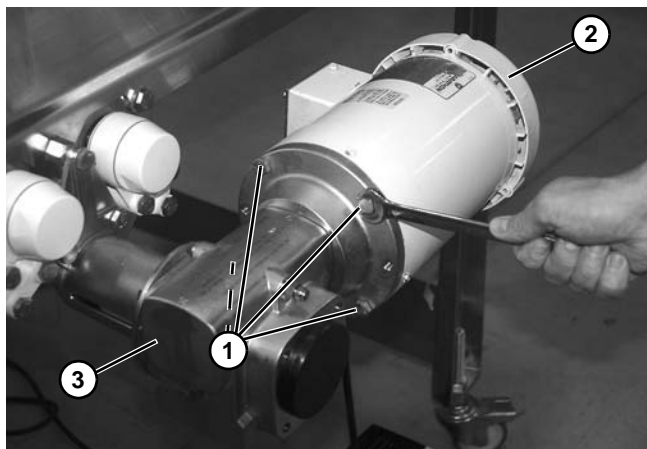

Figure 168
2. Remove four screws (Figure 168, item 1) holding motor (Figure 168, item 2) onto the gear reducer (Figure 168, item 3).